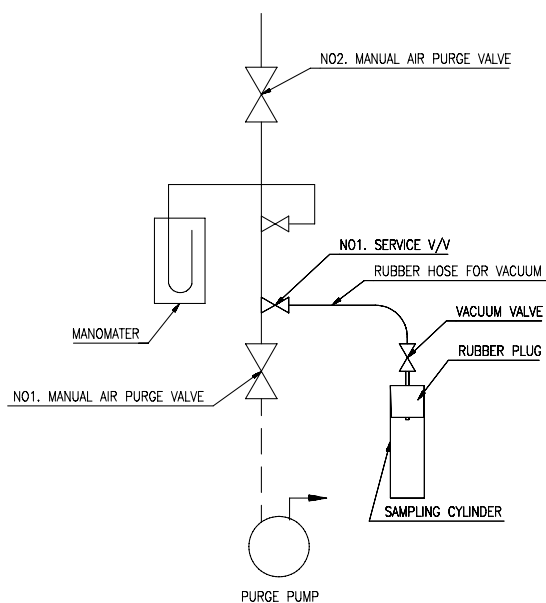
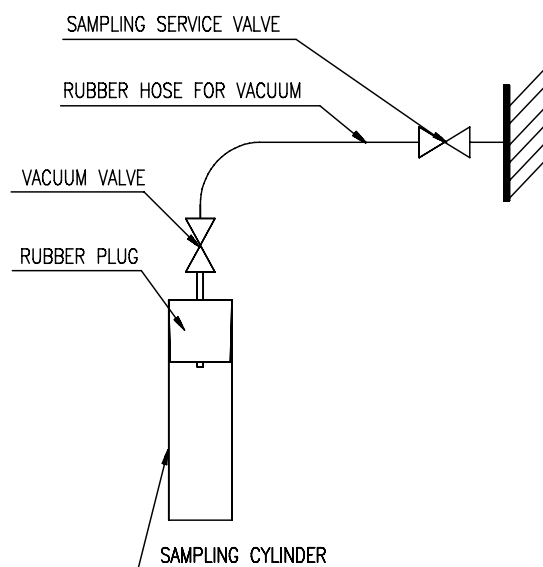

Fig. 7-1. Air Purging from Sampling Cylinder
Fig. 7-2. Method of Absorbent Sampling
- (1) Prepare equipment as per Fig. 7-1.
- (2) Operate purge pump
- (3) Open up No.1. manual air-purge valve
- (4) Open up No.1. service valve.
- (5) Open up vacuum valve on sampling cylinder.
- (6) Once final pressure becomes about 5mmHg as indicated on mercury manometer, close up vacuum valve.
- (7) Close up No.1 service valve and No.1. purge valve.
- (8) Remove vacuum rubber hose from No.1. service valve, and connect it to the sampling service valve through which the sampling solution is extracted. (Fig. 7-2.)
- (9) Open up the sampling service valve.
- (10) Open up vacuum valve on sampling cylinder.
- (11) When sampling cylinder becomes full of absorbent, close up the sampling service valve.
- (12) Remove vacuum rubber hose from the service valve.
- (13) Measure concentration of absorbent after removing the rubber plug from the sampling cylinder.
- (14) Upon completion of measurement, pour absorbent into another container, and wash sampling cylinder with water
- (15) When sampling solution from another part of Absorption Machine, repeat steps (2) to (12)
- (16) Upon completion of above work, replace caps on No.1 service valve and the sampling service valve after checking the packing.
- (17) Stop purge pump.